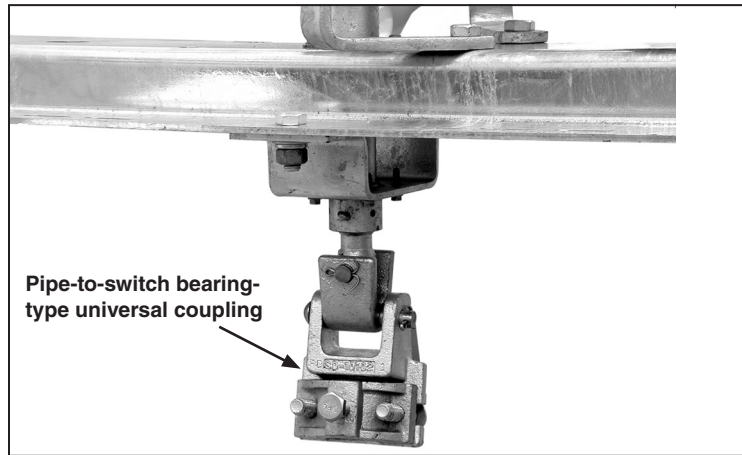

Figure 5. Attach the universal coupling to the switch pole rotating shaft.
STEP 3. For switches that are directly connected to the vertical operating pipe, attach a pipe-to-switch bearing-type universal coupling to the rotating shaft extending below the switch base. See Figure 5.